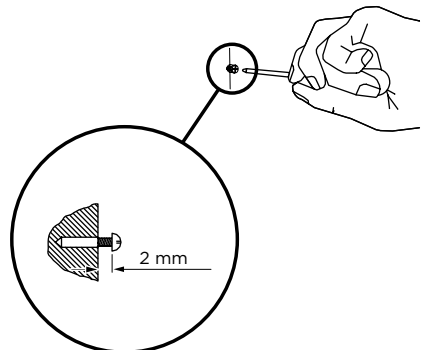
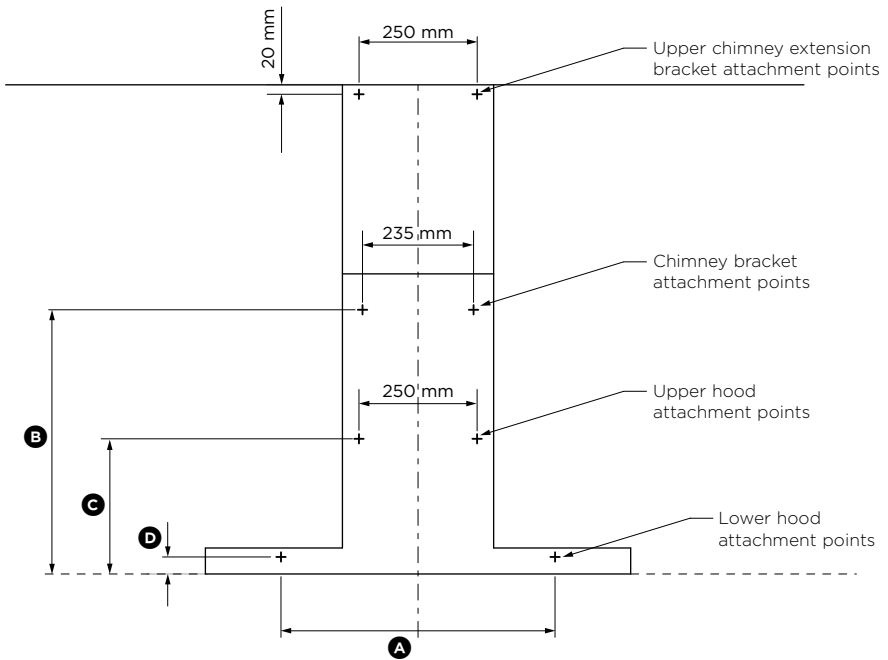

Fig.1
Fig.2
- Attach the chimney bracket and upper chimney bracket (if using the upper chimney) in the locations shown in Fig.2 and 3. Use the 30 mm screws and expansion plugs if attaching to masonry.
- Attach the upper hood mounting screws in the locations shown in Fig.2 and 3. Use the 30 mm screws and expansion plugs if attaching to masonry. Ensure that there is a 2 mm gap between the screw head and the wall - see Fig.1.